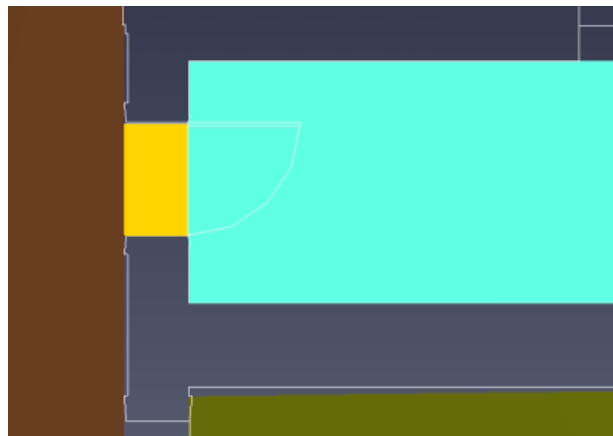

Figure 54. Thick door connecting the rooms
3. The created door will appear as an orange rectangle in the 3D and 2D views as shown in Figure 54.